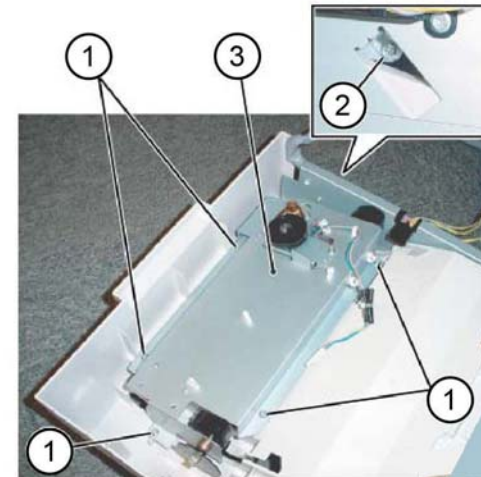

Figure 5 Stacker assembly removal
9. Remove the stacker assembly, **Figure 5:**
- a. Remove five self-tapping screws (1).
- b. Remove the screw (2).
- c. Remove the stacker assembly (3).